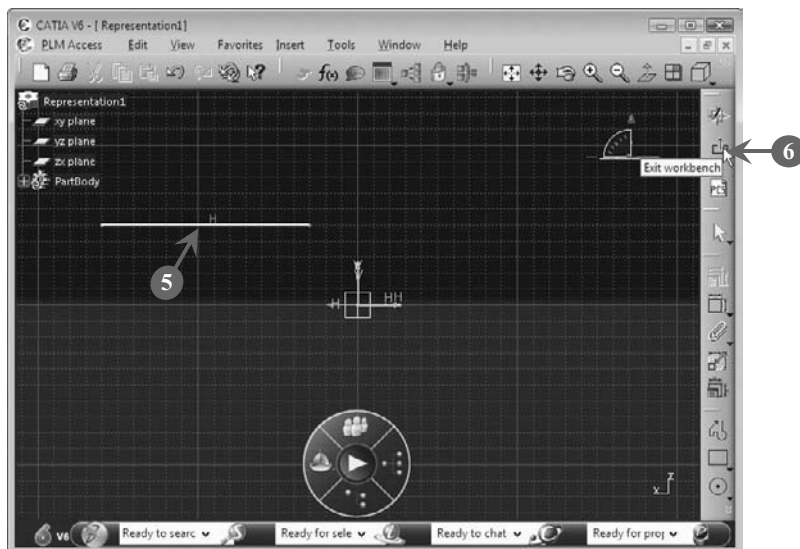

FIGURE 5.54
5. *Draw* a line, which works as the profile to be extruded to create the reference surface (**Figure 5.54**).
6. *Click* the **Exit workbench** button on the **Workbench** toolbar to exit the Sketcher workbench, as shown in Figure 5.54: